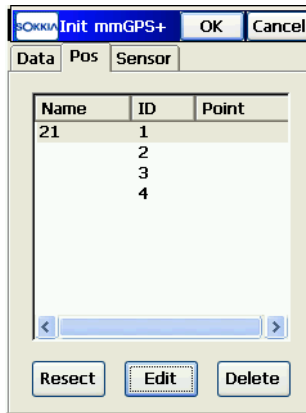

Figure 8-15. init mmGPS+ -Trans Tab
6. On the (*Trans*) *Pos* tab, select the desired transmitter. Tap **Edit** to enter the transmitter's position (Figure 8-15).